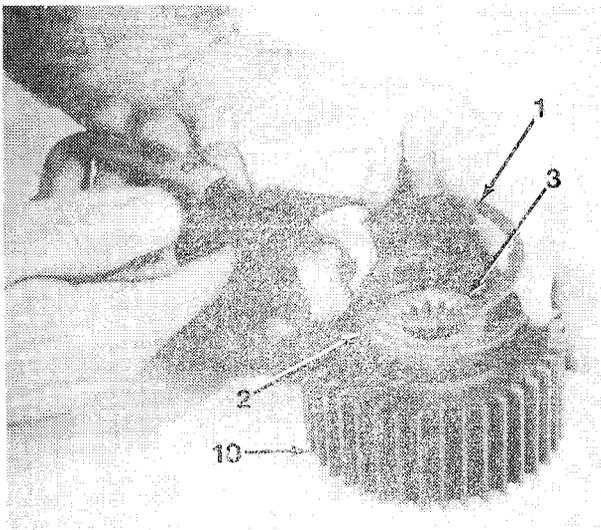

Figure 16-5
5. Press brake cam (3) into brake race (10, Figure 16-5).
6. Install remaining brake roller retainer (2) and retaining ring (1).